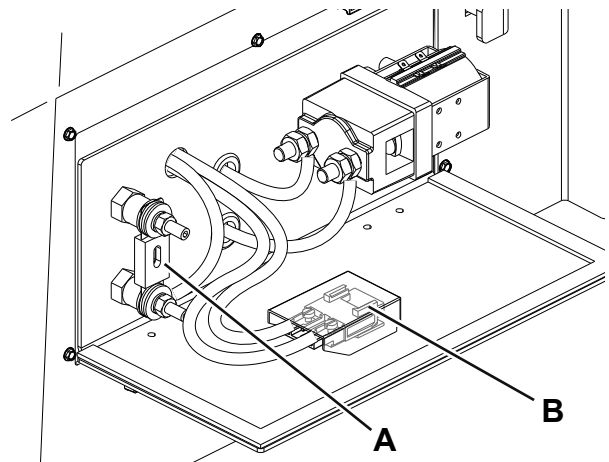

Figure 9
3. Turn the ignition key (57) to "O" and remove it.
4. Open the fuse box cover (23).
5. Check the following fuses (Fig. 9) for integrity:
- (A): F0 (250 A), main pump motor
- (B): F10 (30 A) (B), auxiliary circuits
6. Close the fuse box (23).